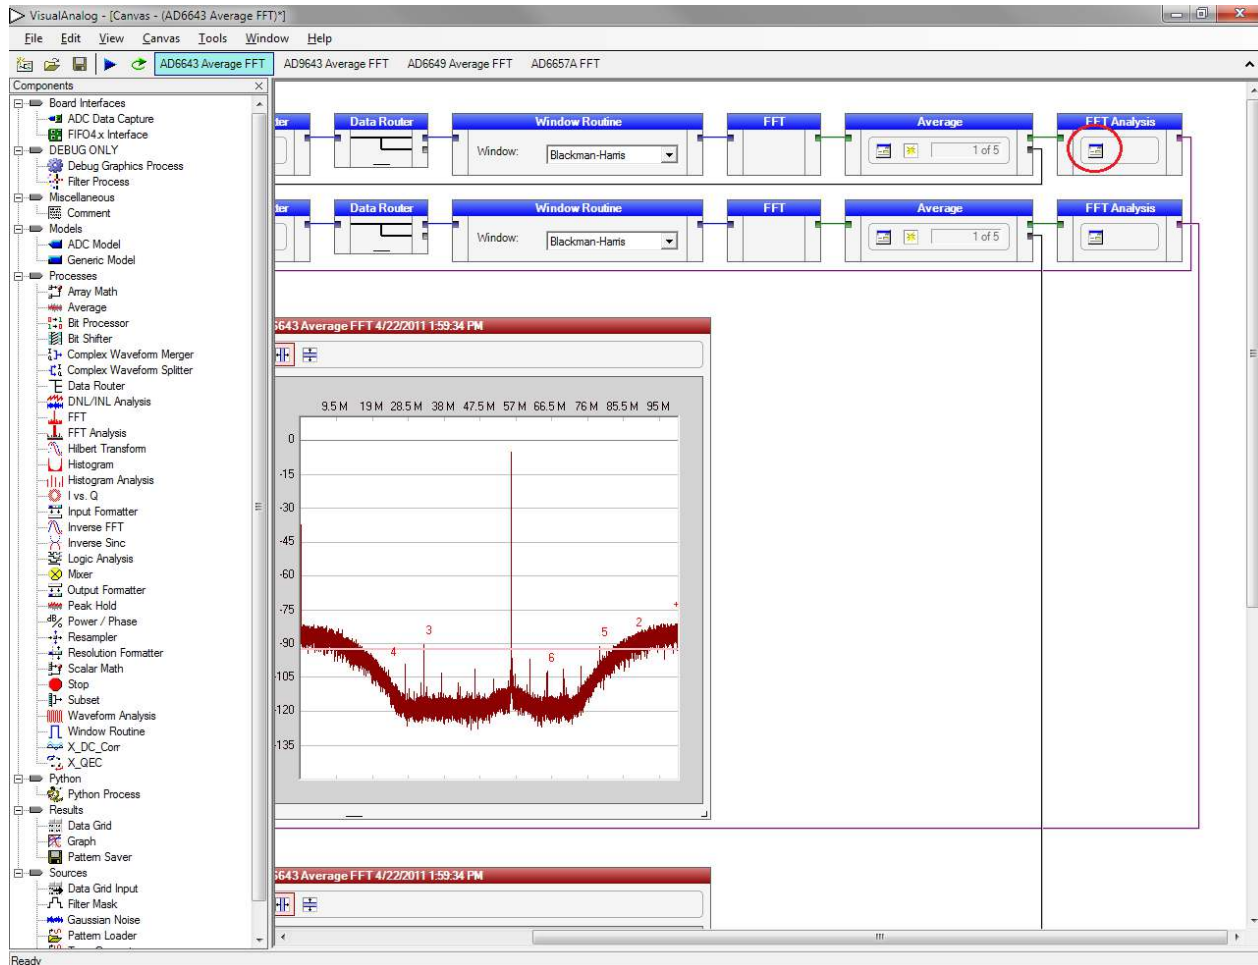

Figure 20. VisualAnalog, Main Window—Showing FFT Analysis for AD6643
- If operating the AD6643 with NSR enabled, certain options in VisualAnalog must be enabled. Click the button circled in the FFT Analysis box (see Figure 20) in VisualAnalog to bring up the options for setting the NSR.